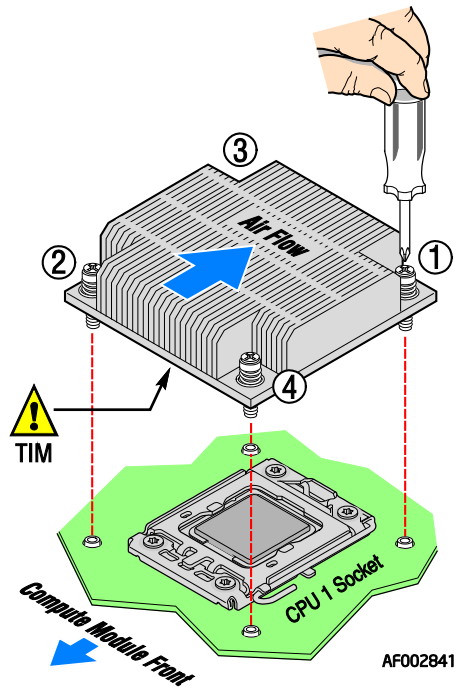

Figure 2: Installing the Heatsink
2. Orient the heatsink over the processor as shown in Figure 2. The heatsink fins must be positioned as shown to provide correct airflow through the system.
4. Loosely screw in the captive screws on the heatsink corners in a diagonal manner according to the numbers shown in Figure 2 as follows: